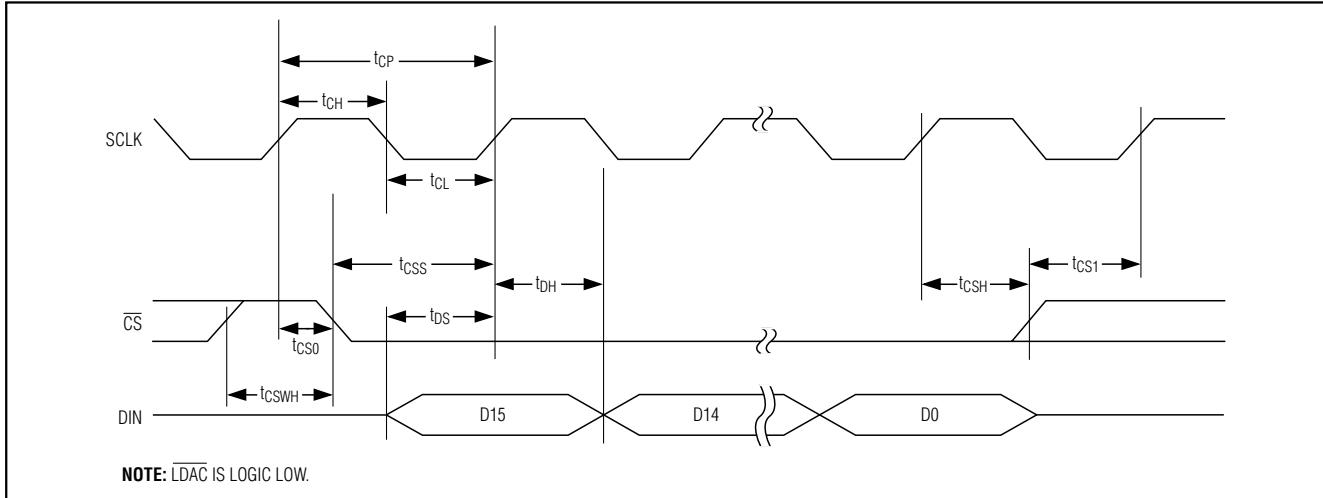

Figure 2. 3-Wire Interface Timing Diagram
One of two methods can be used when interfacing and updating the MAX5200–MAX5203. The first requires three digital inputs: CS, DIN, and SCLK (Figure 2). The active-low chip-select input (CS) enables the serial